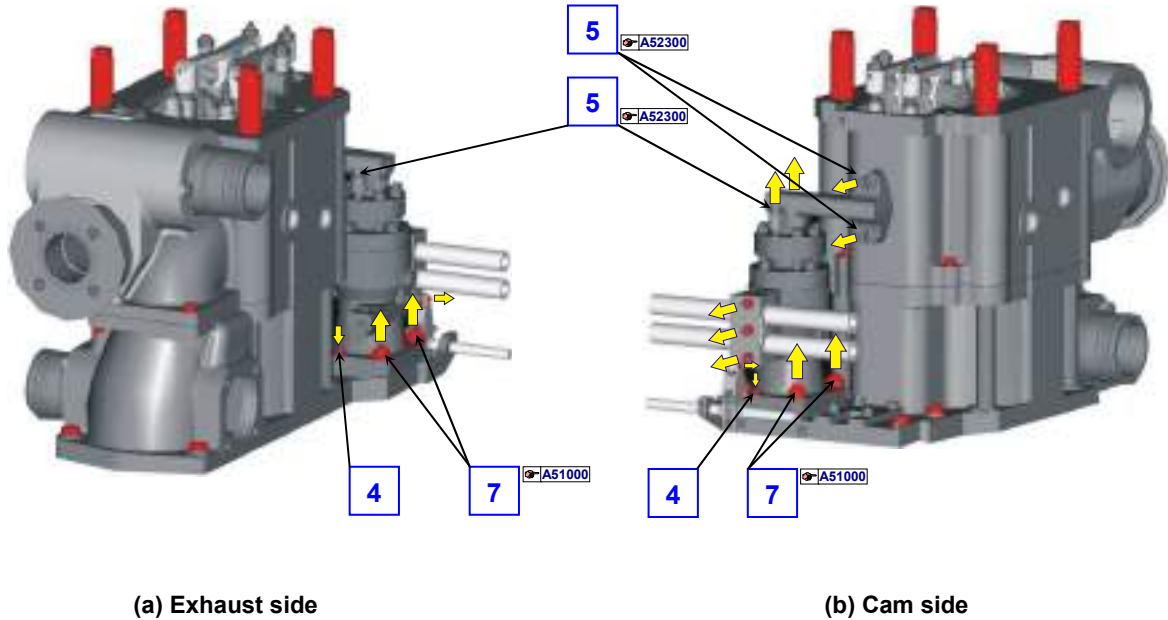

Fig. 2 Loosen the bolts for high pressure pipe block and fuel injection pump
4. Prepare two fixing bolts (M8), and screw fuel injection pump and water jacket by them as shown in fig. 2.